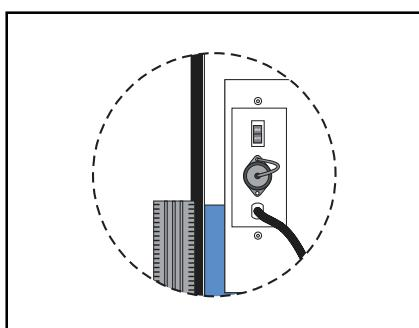

Figure 2-2 Power cable entry, Humidistat socket and Man/Auto mode switch
The control panel on the front of the dehumidifier consists of on-off switch, display and hour run meter. A mode switch is located at the back of the dehumidifier, *see Figure 2-2*
2. Select the **MAN** operating mode with the MAN-AUTO switch, see *Figure 2-2*.
3. Select the **Auto** operating mode with the MAN-AUTO switch, see *Figure 2-2*.